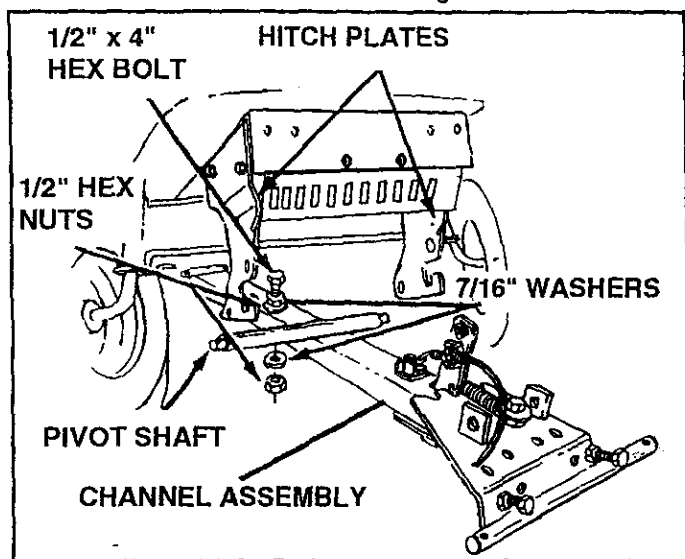

FIGURE 10
1. Assemble one 1/2" x 4" hex bolt, one 1/2" hex nut and one 7/16" standard washer into top of slotted hole in channel assembly. Assemble one 7/16" standard washer and one 1/2" hex nut on bottom of 1/2" bolt under channel assembly. See figure 10. **DO NOT TIGHTEN AT THIS TIME.**
2. Assemble channel assembly to hitch plates at front of tractor as shown in figures 10 and 11.